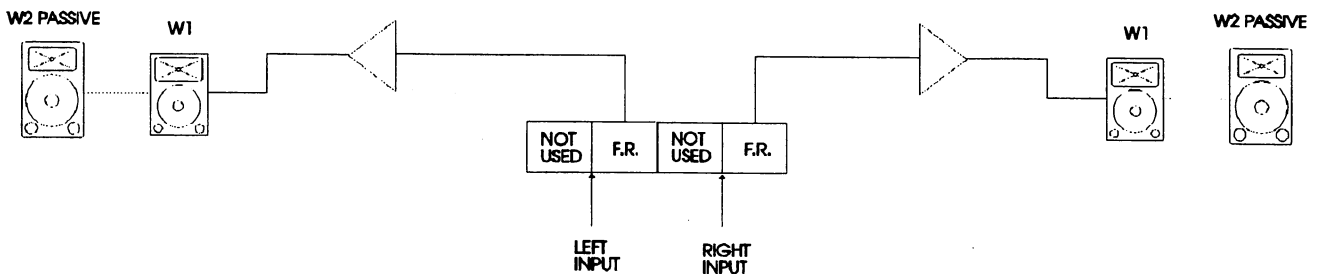

FIG. 9 W1 or W2 Passive Operation using WX3S
A WX3S controller is used to provide LF equalization and limiter functions for stand-alone W1 and passive W2 systems operated full-range (see Fig. 9). In this instance the W1 and W2 should be driven from Bands 2 and 4 set to operate in full-range **Mode (A)** (see Section 7.3)